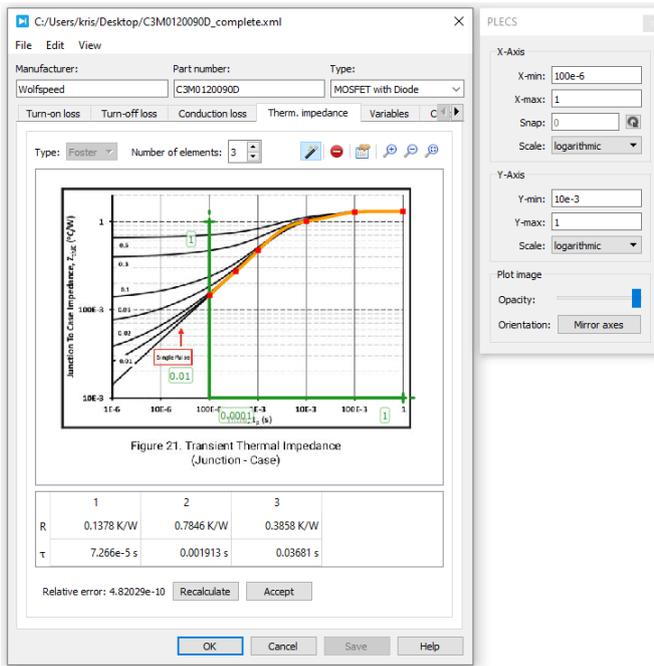

Figure 3: Thermal impedance curve import
- 1 The thermal impedance for the device has already been specified using a 4-element Cauer chain, but if you have time you can replace these values using information from the datasheet. Datasheets will often provide Foster or Cauer network coefficients, but in this case, only the heating curves are provided. The Curve Import Wizard tool has a fitting algorithm to calculate Foster network coefficients from the Single-Pulse test curve. Click on the **Therm. impedance** tab and then the  button in the top-right corner of the table area. Drop a screenshot image of **Figure 21** into the window. An image file C3M0065090J_datasheet_figure21_thermal_impedance.png has been provided already. You will need to enter the limits in the **Configure axes** widget to the right and line up the green axis guides with the axes on the plot as you did before. It is recommended to use $100e-6$ as the lower limit of the X-axis (**X-min**) to avoid that very small Foster element coefficients are calculated resulting in stiff differential equations. You should then start setting points to recreate the Single-Pulse curve by carefully double-clicking along it. When you have selected the points with sufficient accuracy, increase the **Number of elements** to 1. PLECS calculates a set of Foster coefficients and displays the result as an orange curve on top of the graph. Increase the **Number of elements** until the orange curve graphically indicates a close match to the Single-Pulse curve (~4 elements should be appropriate). If the current fit is not satisfactory, you can calculate a new one by pressing the **Recalculate** button or provide more resolution to the fit by adding additional points along the curve. Fig. 3 shows a complete curve fit and resultant coefficients. When you are satisfied with the fit, click the **Accept** button, followed by the **Save** button. Note that doing this will overwrite the original thermal impedance data provided with the file.